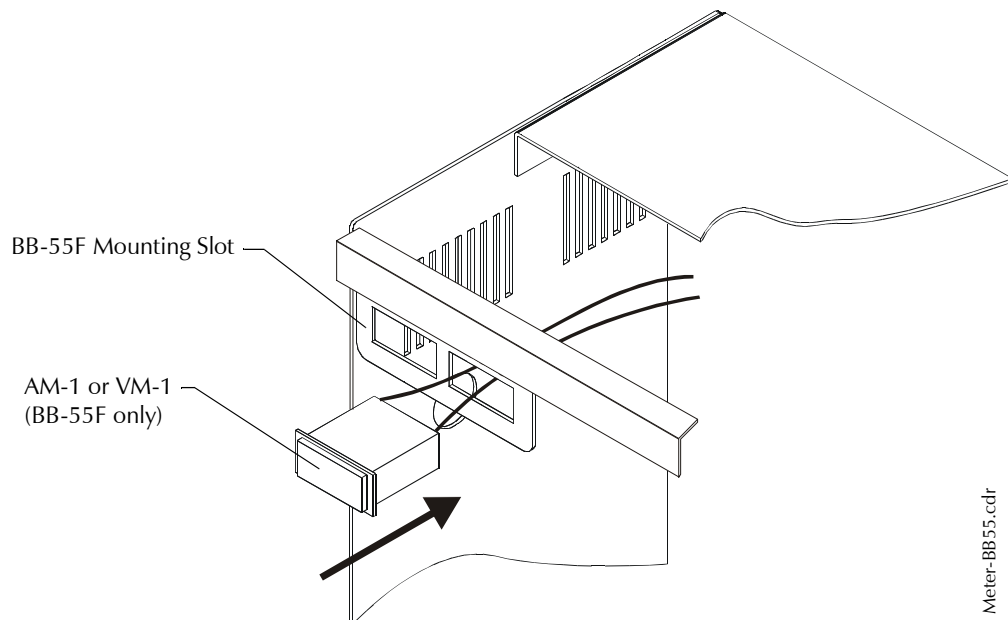
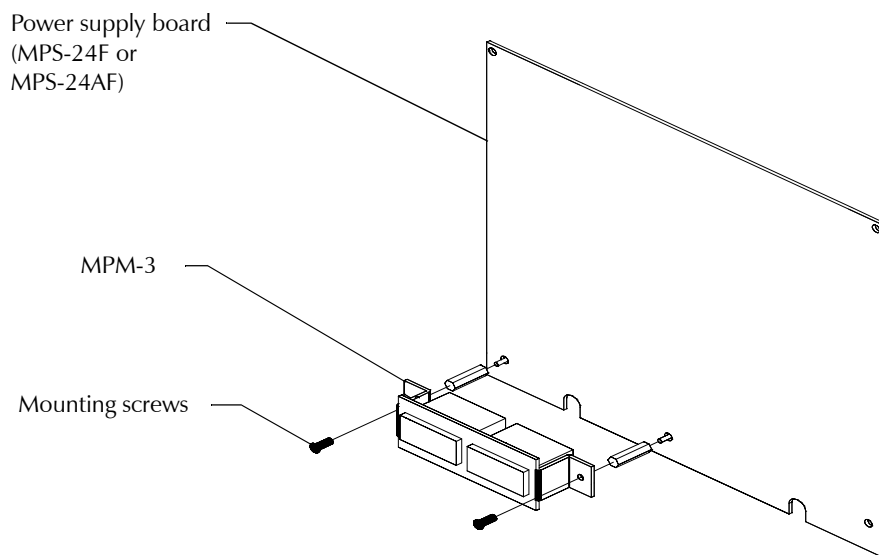

Figure 16 Mounting an AM-1 or VM-1 to a BB-55F Battery Box
Figure 17 Mounting an MPM-3
You can also order and install a ammeter (AM-1), voltmeter (VM-1), or both (MPM-3) for use with the charger. If mounting an AM-1 or a VM-1, mount the meter to a BB-55F as shown in Figure 16. If mounting an MPM-3, mount to a power supply (Figure 17) installed in a CAB-A3F or CAB-B3F. Table 6 contains descriptions and part numbers for these optional meters:
2. Mount the AM-1 into a mounting slot on the front of the BB-55F (Figure 16).
3. Mount the MPM-3 onto a power supply connected to your system, such as an MPS-24F or MPS-24AF (Figure 17).